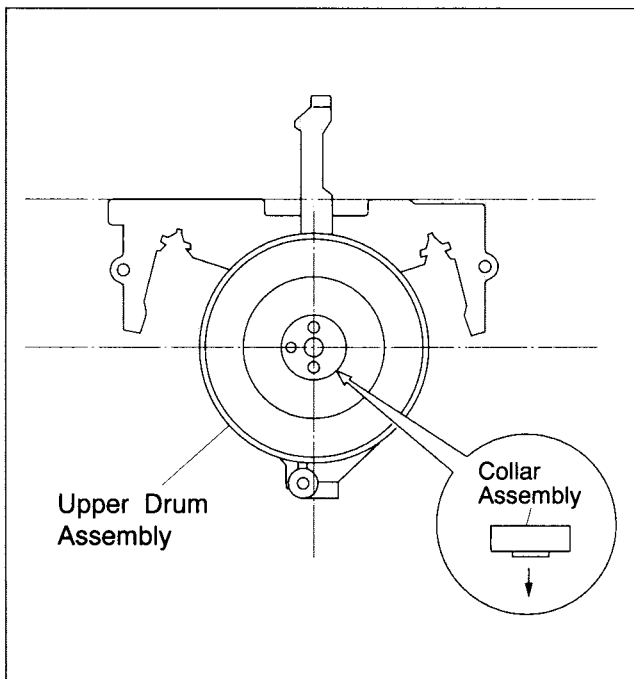

Fig.2-5-27
- (3) Note the top and bottom of the collar assembly and determine the position as indicated in Fig.2-5-27.